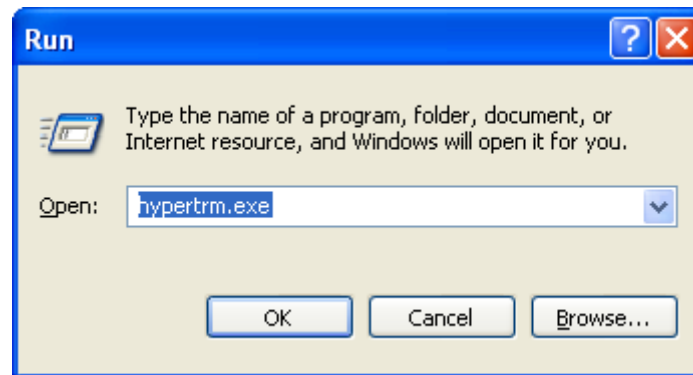

Figure K-23. Open HyperTerminal from Run task
Step 1. Open Run task and enter hypertrm.exe as shown in Figure K-23.